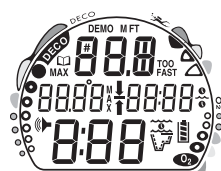

Fig. 14 - Diagnostic Mode
- Upon manual activation, the unit will enter Diagnostic Mode (Fig. 14), displaying all segments of the LCD as 8's, followed by dashes (- -), then a countdown from 9 to 0. Diagnostic Mode checks the display and Battery voltage to ensure that everything is within tolerance and functioning properly.